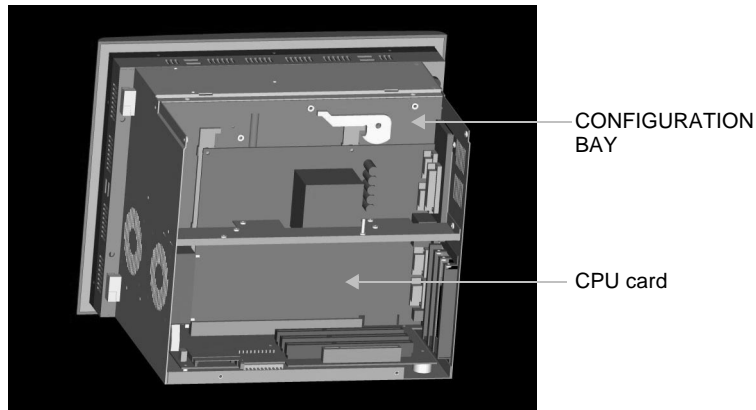

Figure 5: : Configuration Bay
11. Slide the back cover off the unit, exposing the configuration bay and the CPU card, as shown in Figure 5.